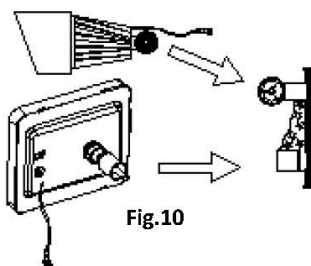

Fig.10
- Mount Solar Panel to pole mount base using provided butterfly nut (Fig.10). Adjust lamp initial aiming direction before fixing it.